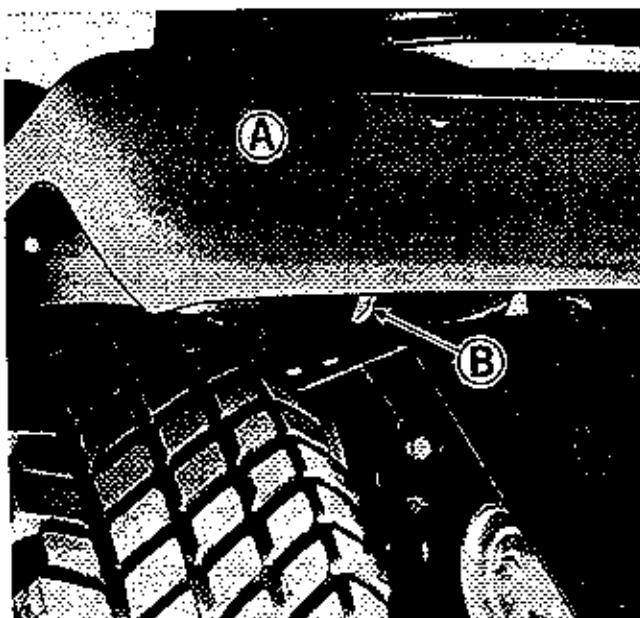
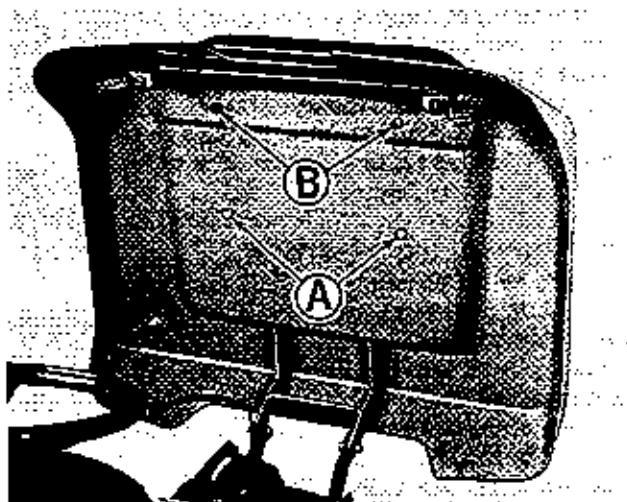
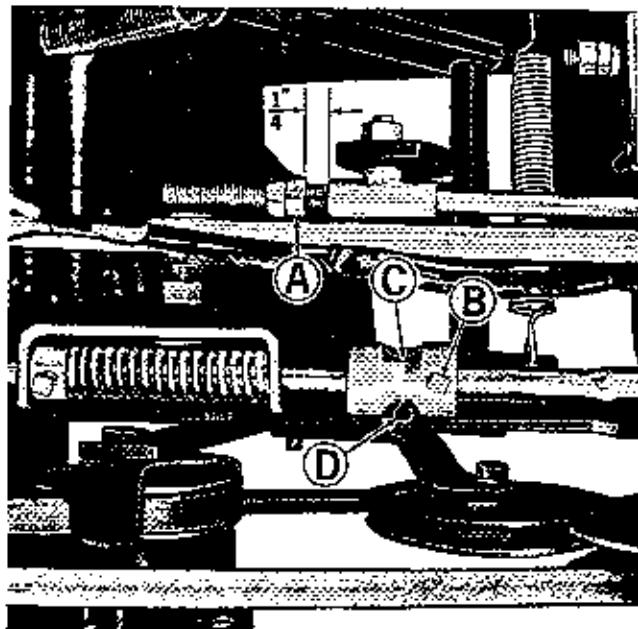
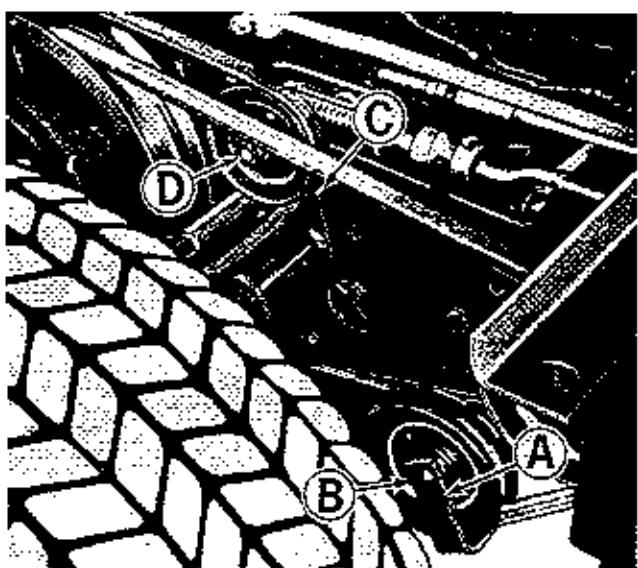

Figure 7. Seat deck release at front of seat deck.
Figure 8. Seat deck raised.
Figure 9. Clutch free travel and shuttle drive adjustment.
Figure 12. Belt stop adjustments located under seat deck.
See figure 7. The tractor seat deck (A) is hinged at the back. To raise the seat deck, reach under it from each side and pull the two locking levers (B) to the outside. As you hold the locks out raise the seat deck as shown in figure 8. Raising the seat deck in this manner will expose many of the transmission adjustment and maintenance areas.
See figure 8. The tractor seat is properly adjusted when the operator can comfortably operate the clutch and brake pedal while sitting back in the seat. The seat can be adjusted forward or back in any of four positions. If adjustment is required, proceed as follows:
1. See figure 8. Position the seat deck as shown by following the instructions under Raising the Seat Deck on page 9.
2. Remove the two cap screws and lock washers at (A).
3. Remove the two nuts and lock washers at (B).
4. If the seat is to be positioned in either of the two forward sets of mounting holes the two rubber spacers are placed over the studs at (B) and used between the seat and seat deck. If the seat is to be positioned in either of the two
See figure 9. The clutch free travel is correct when there is $\frac{1}{4}$ " between the nuts (A) and the rod guide when the clutch brake pedal is released and pulled rearward as far as it will go. If adjustment is required, proceed as follows:
1. Raise the seat deck as shown in figure 8, by following the instructions under Raising the Seat Deck on page 9.
2. Using two wrenches hold the forward nut at (A) stationary while turning the rearward nut counterclockwise slightly with the other to separate them.
4. Turn the forward nut at (A) as necessary so that the distance between it and the rod guide is $\frac{1}{4}$ " as shown in figure 9.
5. Using two wrenches hold the forward nut at (A) stationary while turning the rear one clockwise to tighten the two nuts together securely.
6. See figure 12. Check belt stop (A) and adjust it if necessary so it does not rub the drive belt when the clutch brake pedal is released. When the clutch brake pedal is depressed, belt stop (A) should pick up the drive belt to aid in disengaging it. If adjustment is required, loosen nut (B) slightly. Be sure to tighten nut (B) securely after the adjustment is completed.
3. See figure 9. Loosen set screw (B). Slide brake detent (C) forward or back as necessary to center it on brake pin (D). Tighten set screw (B) securely.
10. See figure 12. With the shuttle drive control lever locked in the forward drive position, belt stop (C) should be positioned so there is $1/16"$ to $1/8"$ clearance between each leg of it and the clutch belt. If adjustment is necessary, loosen nut (D) slightly. Tighten nut (D) securely after the adjustment is completed.